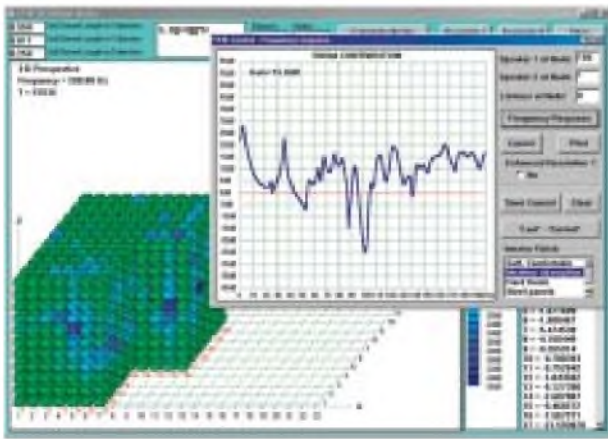

FIGURE 9: "Room contribution" due to single subwoofer Sw 1 at node 166.
I explained this problem when discussing the results of modal analysis. Now, you can finally see the effect of placing the loudspeaker on the nodal line on the overall SPL curve. It is evident from Fig. 9 that subwoofer Sw1 fails to energize modes 26Hz, 56Hz, and so on. Even a simple visual inspection of Fig. 9 is sufficient to see that corner "A" is not as good a location for a subwoofer as corner "B."
If you are the happy owner of a single-subwoofer system, you may need to do more homework on subwoofer placement than users of two-subwoofer systems. Corner "A" (node 166) may have been the choice of many users, simply because of its somewhat central location. Resulting "room contribution" would be poor, which is evident in Fig. 9 and even more evident in Fig. 10.
3. Placing both subwoofers in corner "A" or in corner "B" will not result in a "smoother" SPL response; it will only raise the plots on Fig. 7 or Fig. 9, respectively.